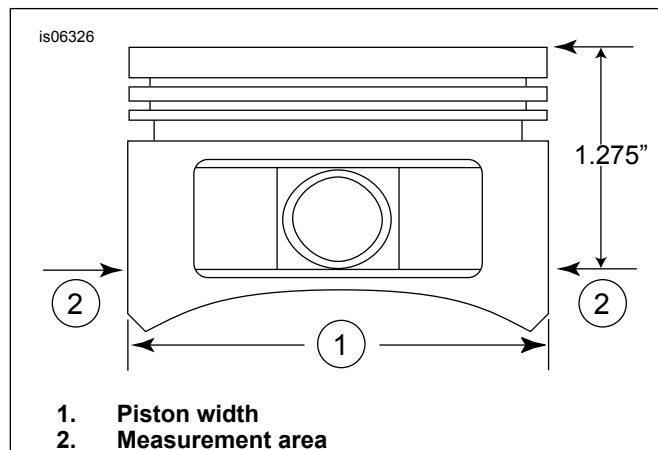

Figure 2. Piston Measurements
- See Figure 2. Measure the piston width (1), 90 degrees horizontally from both sides of the piston pin hole and 32 mm (1.275 in) down from the deck (top) surface of the piston (2). See Table 11 for piston-to-cylinder fit at this location.